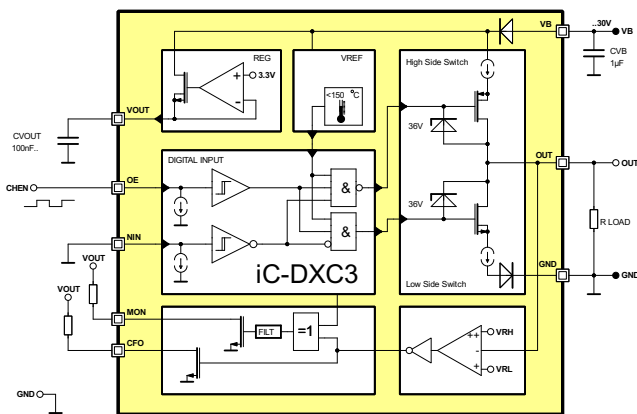
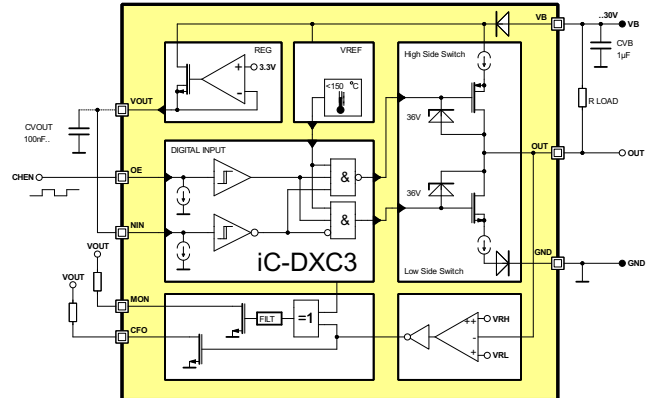
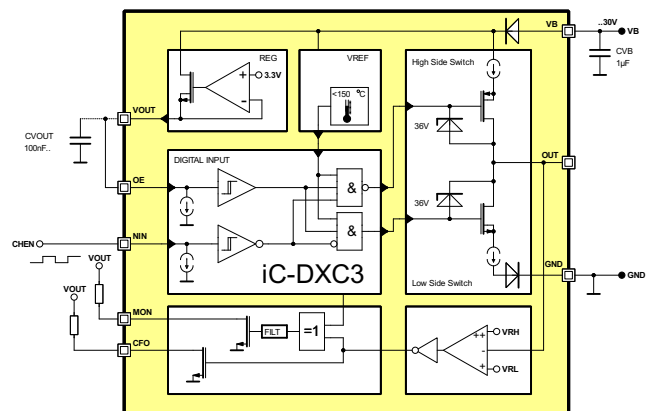

Figure 4: Configuration as High-Side (PNP-Switch)
Figure 5: Configuration as Low-Side (NPN-Switch)
Figure 6: Configuration as Pushpull
The iC-DXC3 can be operated in high-side (PNP), low-side (NPN) and push-pull (PP) switch mode. Figure 4 shows the high-side operation where NIN pin must be kept low and the OE pin controls the switch. Figure 5 shows the low-side operation where NIN pin must be kept high and the OE pin controls the switch. Figure 6 shows the push-pull operation where OE pin must be kept high and the NIN pin controls the switch. If the OUT signal differs from what declared in tables 4, 5 and 6 (due to external forcing) for more than 14  $\mu$ s (cf. Electrical Characteristics No. 510), this event will be signalled by a low level at MON output.
Table 4: Output Function table Fig. 4. High-side mode (PNP-Switch) with external pull-down.
Table 5: Output Function table Fig. 5. Low-side mode (NPN-Switch) with external pull-up.
Table 6: Output Function table Fig. 6. Push-Pull mode